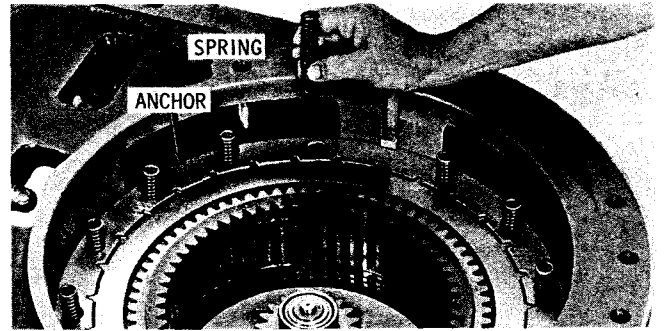

Fig. 7-21. Installing low-range clutch piston return springs
(5) Install 14 low-range clutch piston return springs into the low-range clutch anchor (fig. 7-21).
(6) Install the low-range clutch piston housing and piston. Aline the dowel pin with the